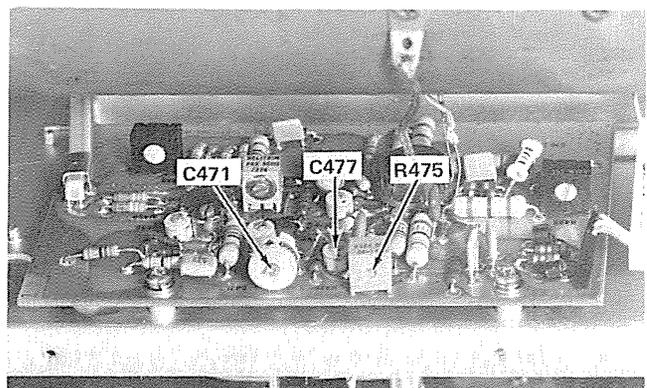

Fig. 5-18. Location of R475, C471, and C477.
h. ADJUST—C471 and C477 (see Fig. 5-18) with a low-capacitance screwdriver, for the best flat-top waveform.